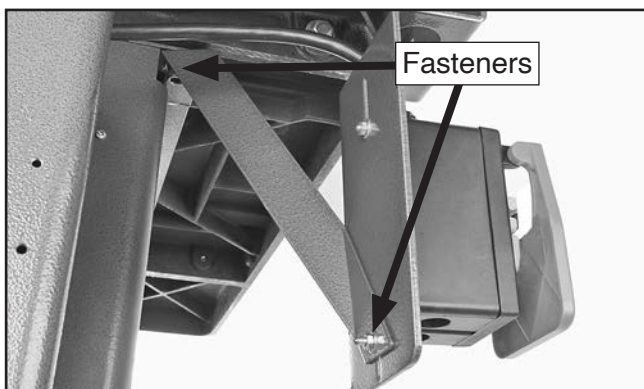

Figure 20. Switch bracket installed.
9. Mount switch brace, as shown in **Figure 20**, using pre-installed table mounting fasteners on top end and switch mounting fasteners on bottom end.